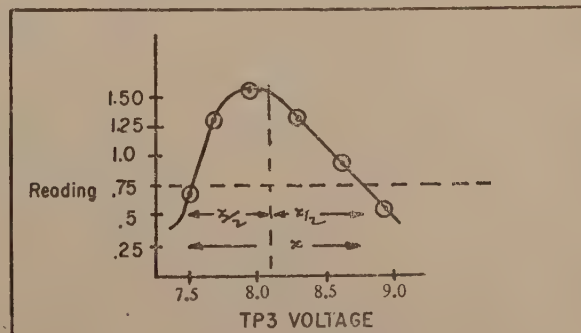

Figure 5-3. Test Curve
- l. Increase input signal level to 20 mW and repeat R53 adjustments at 500 MHz, 250 MHz and 50 MHz. Note results. Typical readings for steps k and l are given below. Calculate Δ , $\Delta/2$, and center setting of R53 as shown in figure 5-3.
- o. Connect DVM to TP3 and set R54 to optimum setting. This may be determined by plotting R54 voltage vs. Δ readings obtained in steps k through n. Figure 5-3 shows a typical curve. The optimum point is 8.15 V. R53 is then set to obtain the calculated center voltage of 9.45 V.